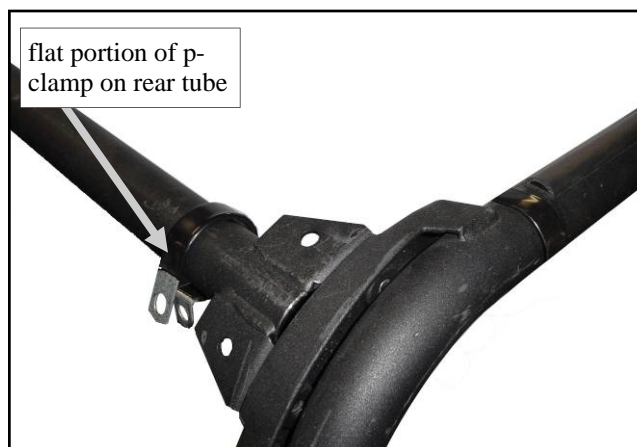

Fig. 3.5 (view from rear of passenger's side)
3.5 Per fig. 3.5, place two of the wide band P-clamps (3/4" wide) on the rear cross tube of the vehicle R.O.P.S. as shown. Be sure to orient the flat sections properly as noted in the photo so that the flat portion of the P-clamp is to be out-board and towards the rear of the vehicle as shown.